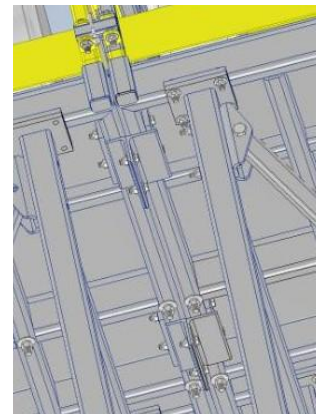

Figure 3
- The RIGHT & LEFT side of the platform bolt together in TWO places as per **Figure 3**.